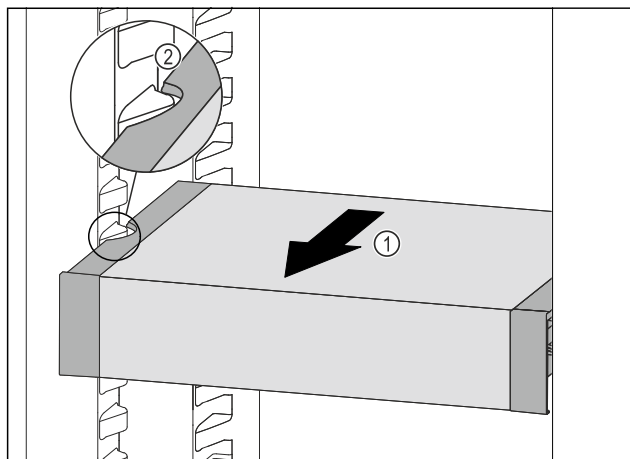

Fig. 206
- Pull VarioSafe forwards Fig. 206 (1) until the recesses in the side of the VarioSafe are at the level of the support rib in the fridge section. Fig. 206 (2)